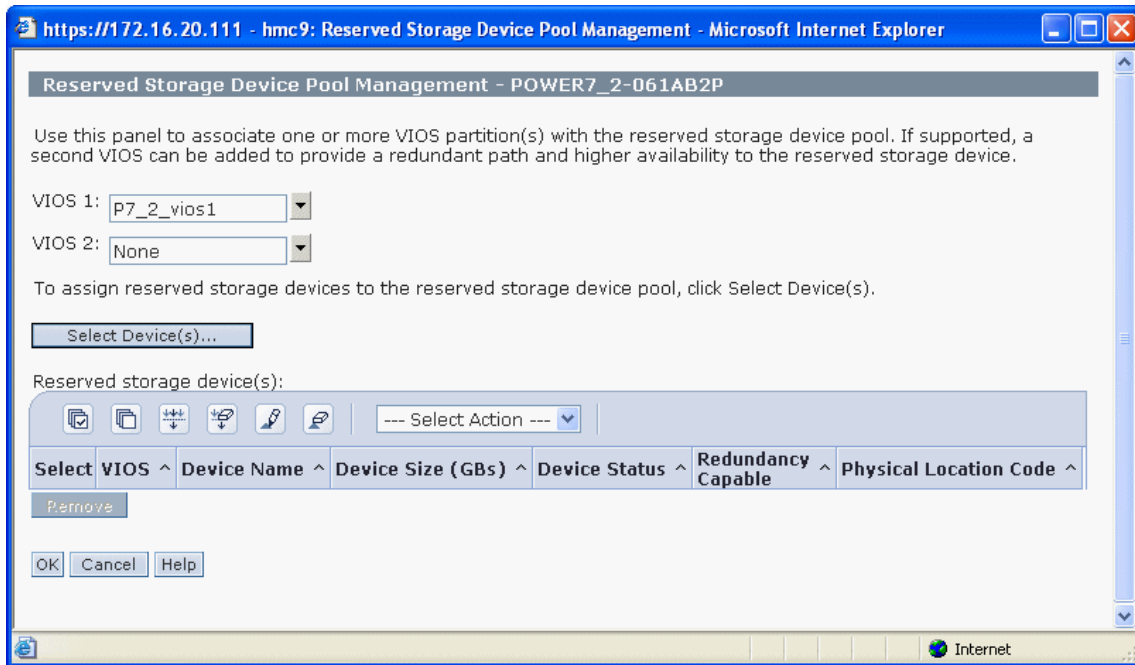

Figure 17-22 Reserved storage device pool management
2. Select the Virtual I/O Server on which the reserved storage device pool must be created, as shown in Figure 17-22, then click **Select Devices**.